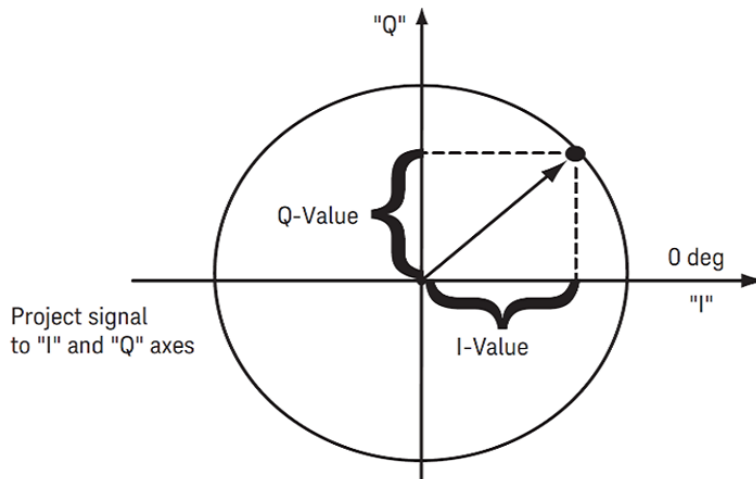

Figure 5.1: I/Q phasor diagram
The basic modulation schemes are amplitude, frequency, and phase modulation. Modulating signals can be expressed in the polar form (vector) with magnitude and phase. I/Q Modulation is widely used in digital communication due to its spectrum efficiency. IQ Modulation uses two carriers, one is known as the in-phase (I) component, and the other is the quadrature (Q) component that is phase-shifted by 90° from the in-phase component as shown in Figure 5.1.